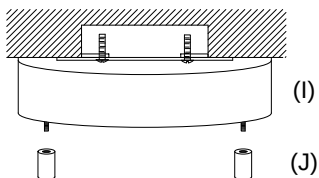

Fig 4
Step 2: Connect the fixture wires (E) to the wires from outlet box, black to live wire, white to neutral wire, green/ yellow and green wire to ground wire(F) . Wrap the connectors (G) with electrical tape (H) separately.
Fix the canopy (I) onto the bracket with cap nut (J) provided (Fig. 4).